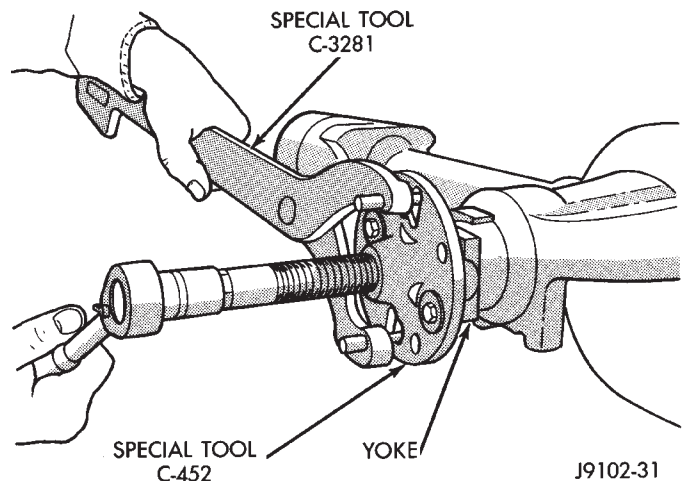

Fig. 28 Pinion Yoke Removal
- (5) Using Remover C-452 and Holder C-3281, remove the pinion yoke from pinion shaft (Fig. 28).